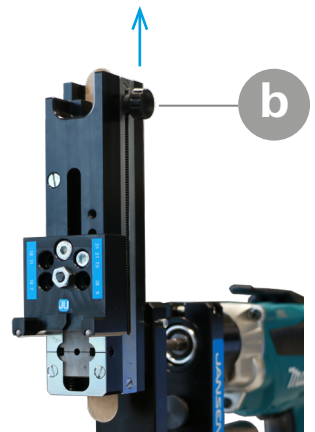

Abb. 3
2. Push the feed knob (b) all the way up and let it snap into place (Abb.3).